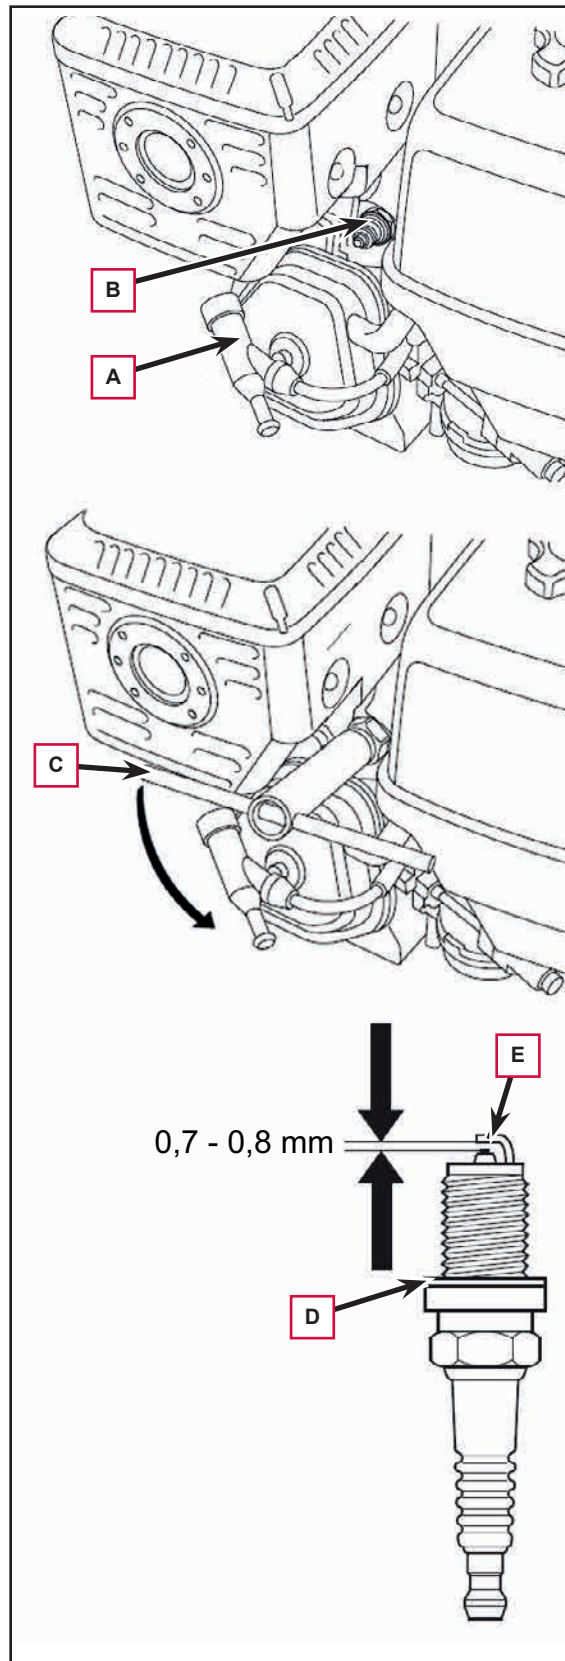

Figure 8
5. Disconnect the spark plug cap (A, Figure 8) and remove dirt around the spark plug (B).
6. Remove the spark plug with a suitable wrench (C).
7. Check the spark plug. Replace it if it is damaged, dirty, if the sealing washer (D) is damaged or if the electrode is worn.
8. Measure the distance between the spark plug electrodes with a feeler gauge. Correct the distance by bending carefully the side electrode (E). The distance between the electrodes must be of 0.70 - 0.80 mm.